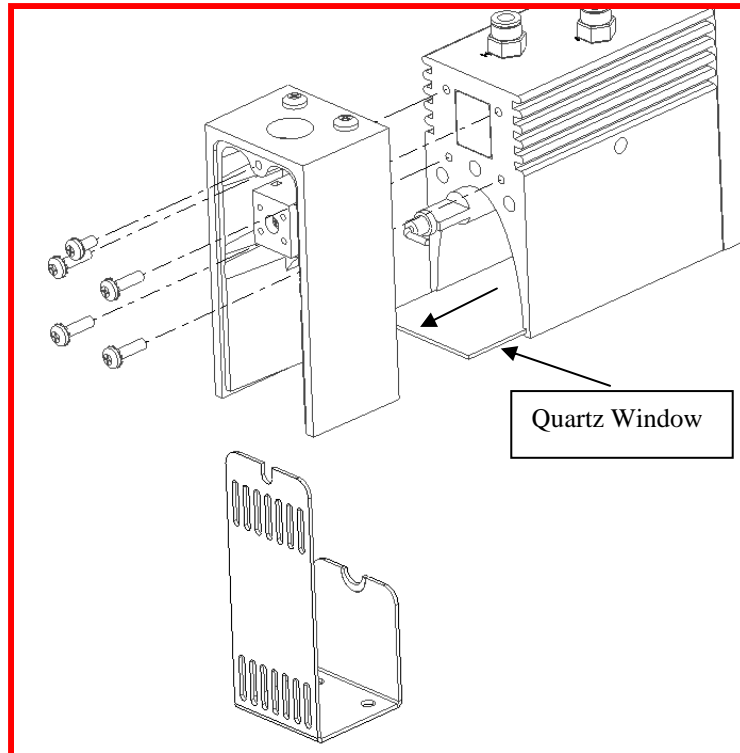

Figure 6-2. Model 5194 Quartz Window Removal.
3. If installed in the heater, remove the quartz window from the heater by sliding the window out of the slots machined into the reflector body (see Figure 6-2). Take this opportunity to clean the window using isopropyl alcohol and a clean, soft cotton cloth (see Section 6-2).